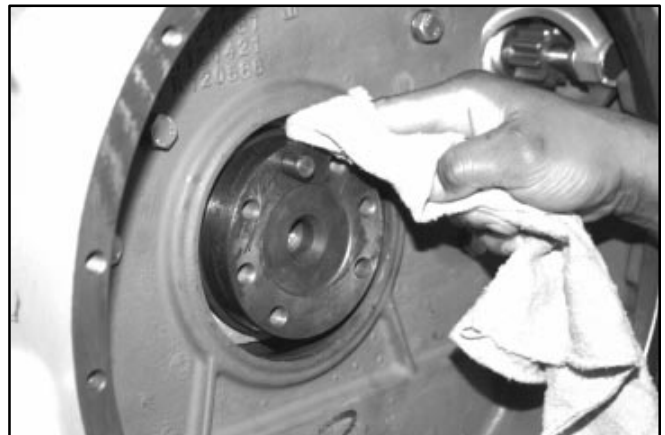

FIGURE 7-40. CLEANING CRANKSHAFT FLANGE AND FLYWHEEL HOUSING BORE
1. Thoroughly clean the OD of the crankshaft flange and bore in the flywheel housing with cleaning solvent, acetone or other suitable cleaner such as Brake Kleen or Ignition Cleaner and Drier. See Figure 7-40.